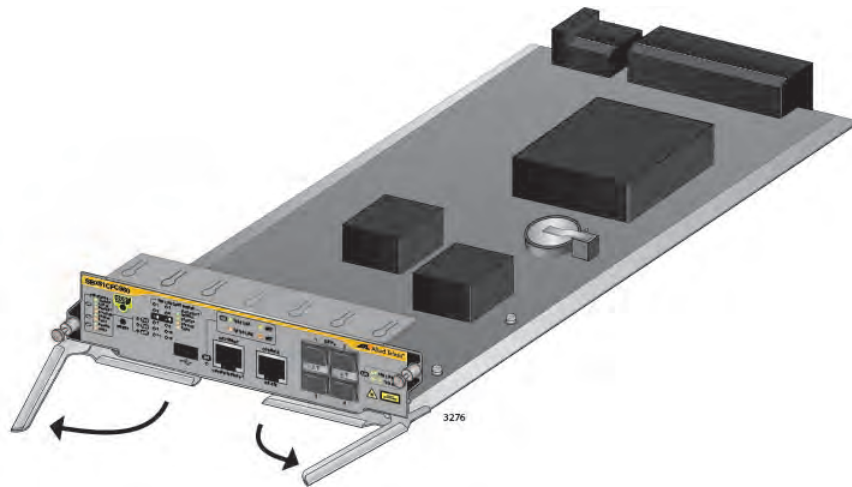

Figure 75. Opening the Locking Handles on the AT-SBx81CFC960 Controller Fabric Card
5. Move the locking handles on the front panel to the open position, as shown in Figure 75.